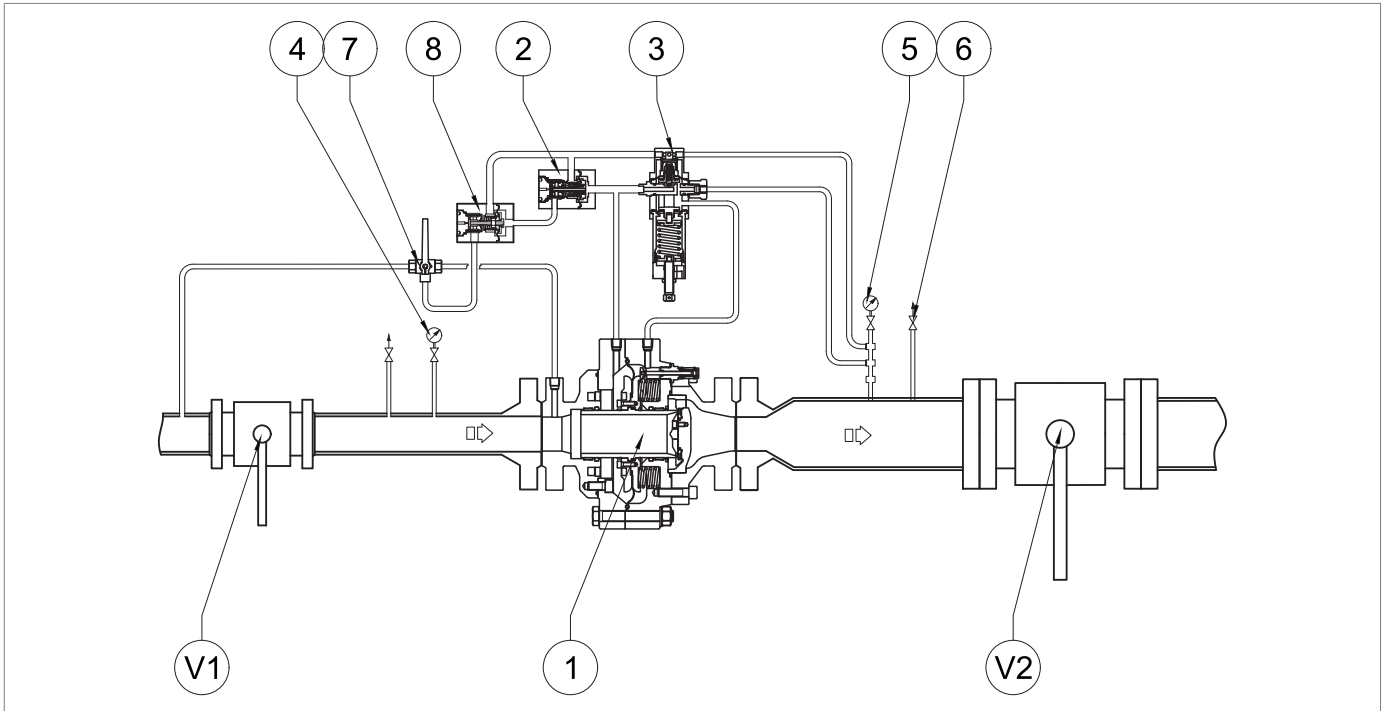

Fig. 8.24. Commissioning the regulator ASX 176/FO
1	<p>By adjusting the main regulator, increase the downstream pressure up to the tripping value of the slam-shut valve, to check for proper calibration.</p> <div style="border: 1px solid blue; padding: 5px;"> <p>! NOTICE!</p> <p>Check the pressure referring to the pressure gauge (Fig. 8.24, ref.5) downstream of the main regulator. If the slam-shut valve:</p> <ul style="list-style-type: none"> • trips before the expected pressure value: screw in (clockwise) the adjustment ring nut (13) so as to further compress the spring (11); • does not trip at the expected pressure value: unscrew (anti-clockwise) the adjustment ring nut (13) so as to relieve the spring (11). </div>
2	By opening the drain cock (Fig. 8.24, ref. 6), decrease the pressure in the downstream section to the calibration value of the main regulator.
3	Close the bleed cock (Fig. 8.24, ref.6).
1	Open the drain cock (Fig. 8.24, ref. 6) into the atmosphere and keep it open for the subsequent phases.
2	<p>Decrease the downstream pressure to the minimum tripping pressure of the slam-shut device by adjusting the pilot.</p> <div style="border: 1px solid black; padding: 5px;"> <p>! NOTICE!</p> <p>Check the pressure referring to the downstream pressure gauge (Fig. 8.24, ref. 5).</p> <p>If the slam-shut valve:</p> <ul style="list-style-type: none"> • trips before the expected pressure value: unscrew (anti-clockwise) the adjustment ring nut (15) so as to relieve the spring (17); • does not trip before the expected pressure value, screw in (clockwise) the adjustment ring nut (15) so as to further compress the spring (17). </div>